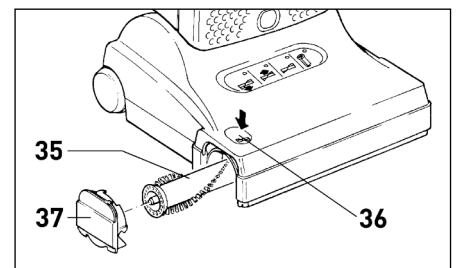

Figure 13 (X4)
## Changing the Brush Roller(s) - Figure 13 (X4), Figure 13a (X5)
The sealing strip (39) is located just behind the brush roller opening. The sealing strip seals the power head to hard floors to prevent kick-back of debris while vacuuming. To replace a worn sealing strip, push the release button, remove the side plate (36 and 37 in figure 13 & 13a) and slide old strip out. Insert the new strip into the slot and slide into place.